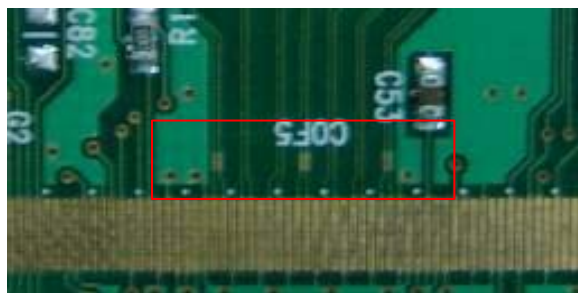

FIG. 3 Measure point
6. The above spec will be guaranteed when measure specific point at Fig3.